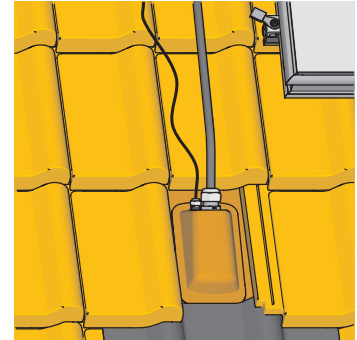

Fig. 3-31 Work step 9
9. Cover the roof penetrations (Fig 3-31).